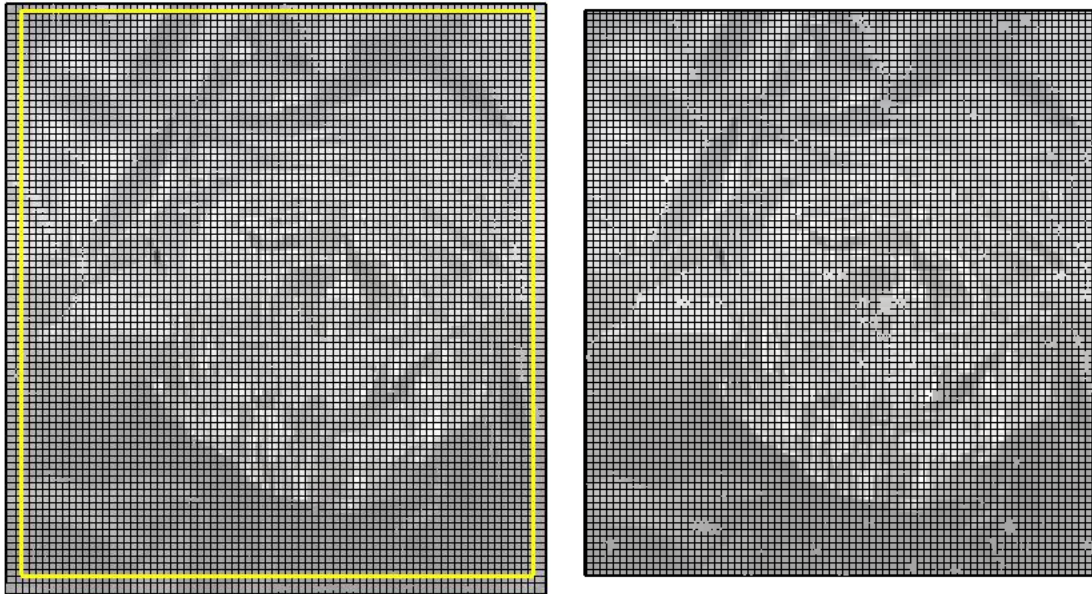

Figure 153: Trimming the draped surface.
1. Go back to **Top View**. **Curve|Rectangle|Corner to Corner**. Enter **-120,1310** for the first and **2100,3750** for the second corner. Note, no blanks. **Edit|Select Objects|Curves** to highlight the rectangle. **Edit|Trim** and click on the surface **outside** of the rectangle (don't forget **<ENTER>** to finish Trim), then **delete** the rectangle itself (Figure 153).